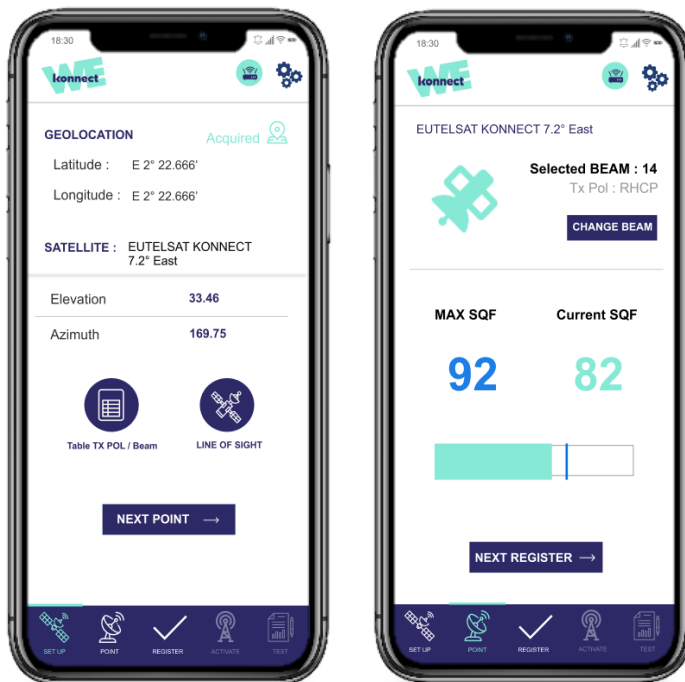

Figure 30, 31
Click on the App home page SAT POINTER, note the antenna Elevation Value, then click 'NEXT: POINT' to enter the pointing mode to visualize the SQF (Signal Quality Factor) in real time. Concurrently the App will automatically (1) load the Modem Configuration file *sbc.bin* stored in the App, as shown by the confirmation message 'The Modem SBC file is up to date', and will automatically (2) program the modem using the Latitude/Longitude data from the GPS (fig. 30, 31).